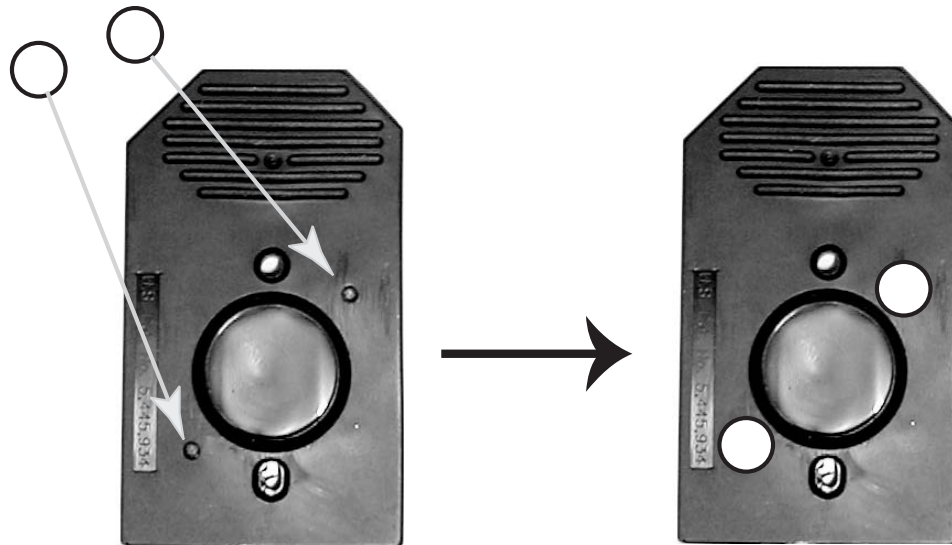

Figure 2.3.1
2. Carefully apply one Tough-Spots to each of the two septa. Press to ensure that the spots remain flat. If the Tough-Spots do not apply smoothly, that is, if you observe bumps, bubbles, tears, or curled edges, do not attempt to smooth out the spot. Remove the spot and apply a new spot. See Figure 2.3.1.